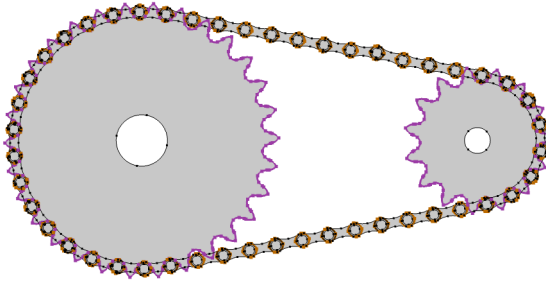

Figure 5: The Roller Outer Boundaries and Sprocket Outer Boundaries selections, used for rigid contact modeling.
- **Roller Outer Boundaries:** This boundary selection contains the outer surfaces of all roller plates. The selection is used for modeling contact between links and sprockets, as shown in Figure 5.
- Sprocket Outer Boundaries: This boundary selection contains the outer surfaces of the sprockets. As shown in Figure 5, these are the boundaries which come in contact with chain rollers.